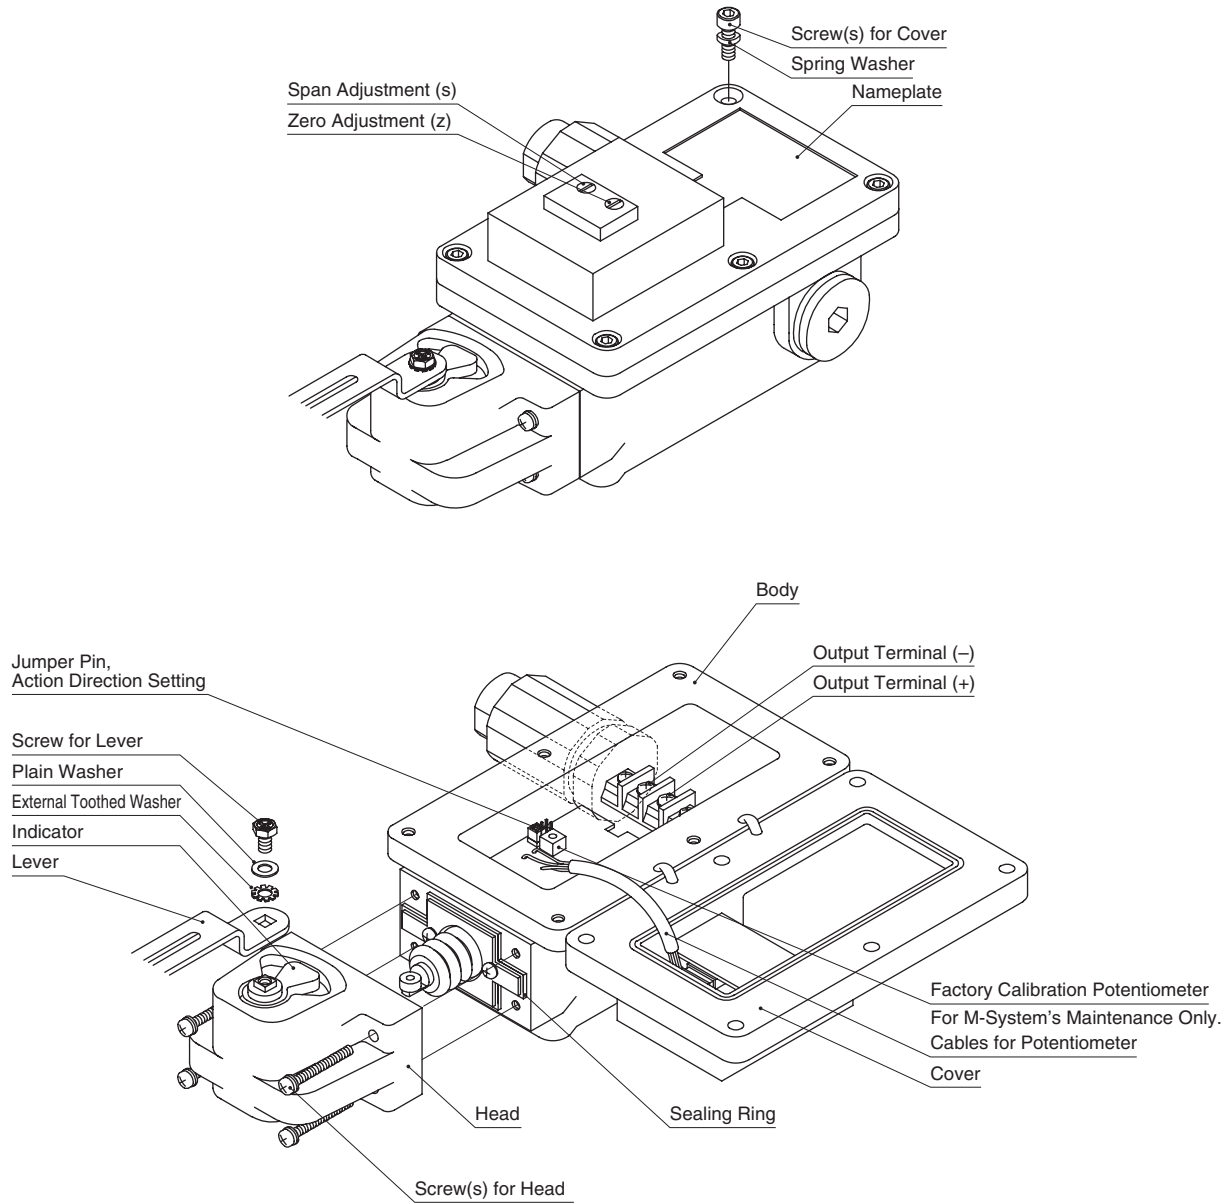

Fig. 1
Connect the lever to the VOS-E unit with a screw included in the package, with a plain washer and a toothed washer between them as in Figure 1.
Refer to Figure 1 and Figure 5 – 1 and proceed as following:
- 1) Loosen 4 screws in Figure 1 which fix the head part and detach it.